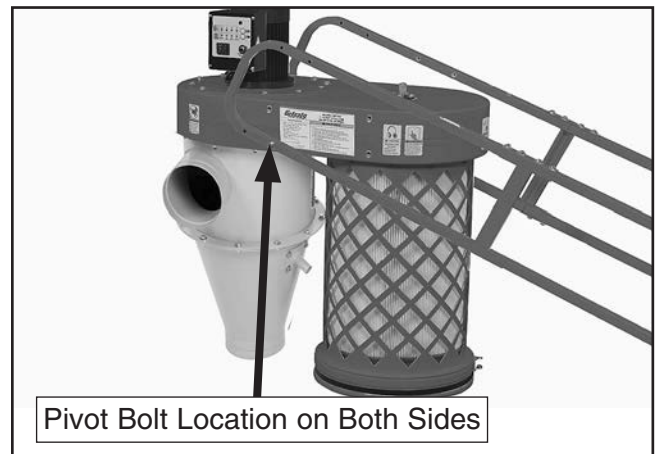

Figure 15. Pivot bolt installed.
4. Position the stand over the dust collector housing, as shown in **Figure 15**, and install (1) $\frac{5}{16}$ "-18 x $1\frac{1}{2}$ " hex bolt and flat washer on each side of the stand to serve as pivot bolts (leave bolts loose for now).